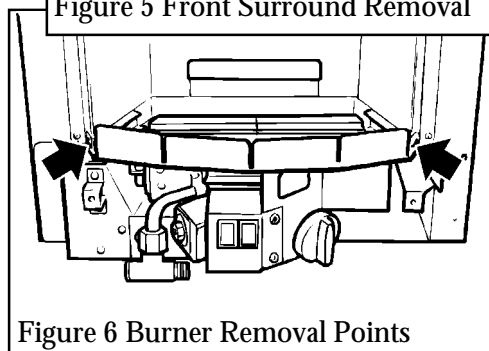

Figure 6 Burner Removal Points
4.3 In the majority of cases (Fixing the appliance to the floor, removal of mains cable for ease of connection to isolating switch), the burner unit will need to be detached. Detach the burner unit from the convection box by removing two screws (see figure 6).